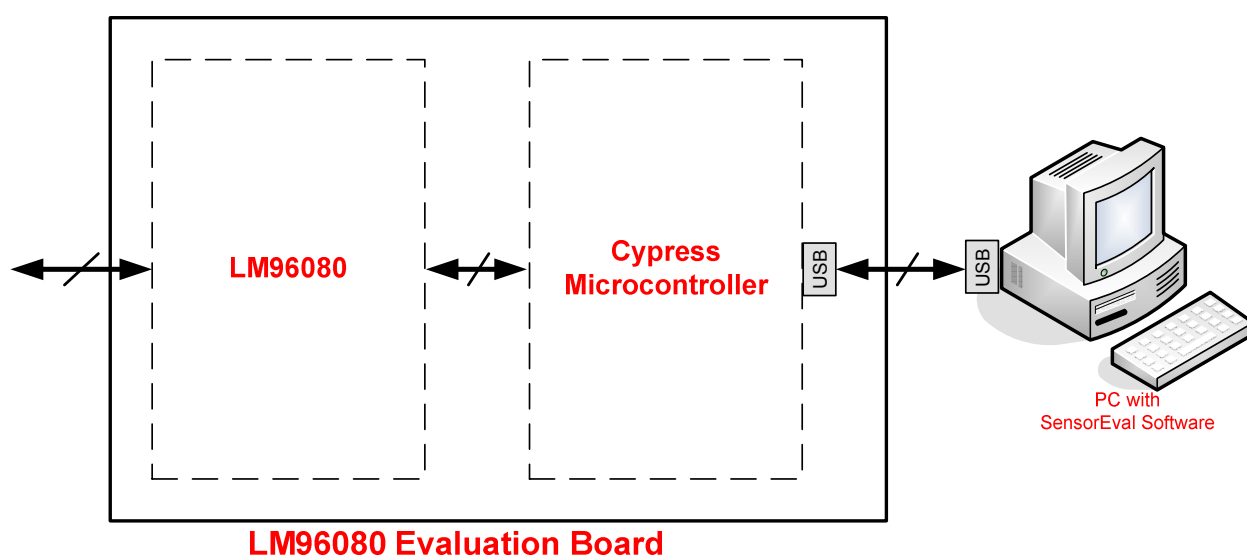

Figure 1 – Equipment Connection Diagram
2.2. Equipment Connection Diagram – figure 1 shows the connection diagram between the board and the PC.